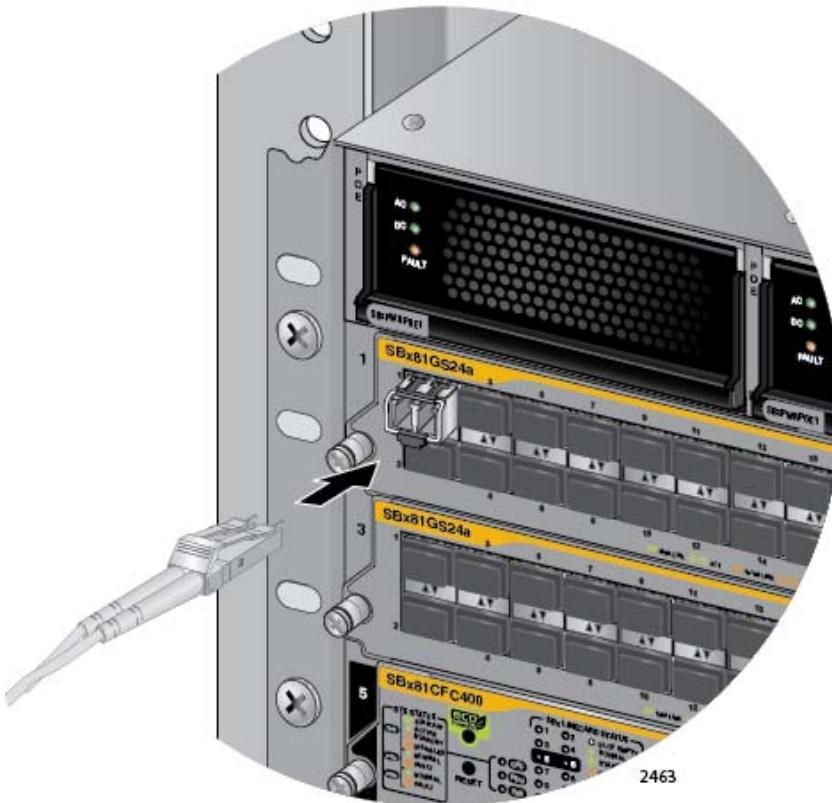

Figure 84. Attaching a Fiber Optic Cable to an SFP Transceiver in the AT-SBx81GS24a Line Card
6. Connect the fiber optic cable to the port on the transceiver, as shown in Figure 84. The connector should snap into the port.